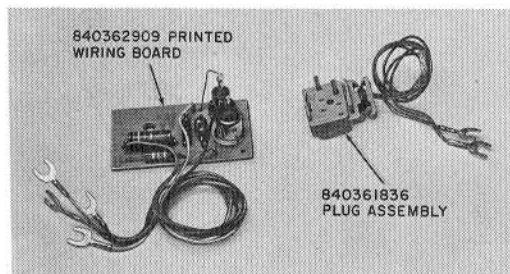

Fig. 18—D-180463 Kit of Parts—Station Busy Lamp Feature
2.28 To provide station busy lamp feature with early production telephone sets equipped for both handset and headset operation and 590- and 650-series keys install a 840362909 Printed Wiring Board Assembly, ordered separately, (Fig. 18). ♦The printed wiring board assembly is provided with adhesive backing to permit mounting on any clean, flat surface.♦
2.29 To provide station busy lamp feature with current production telephone sets equipped for both handset and headset operation and 635-type keys, a D-180463 Kit of Parts consisting of an 840362909 Printed Wiring Board Assembly and 840361836 plug assembly, ordered separately, must be installed (Fig. 18).